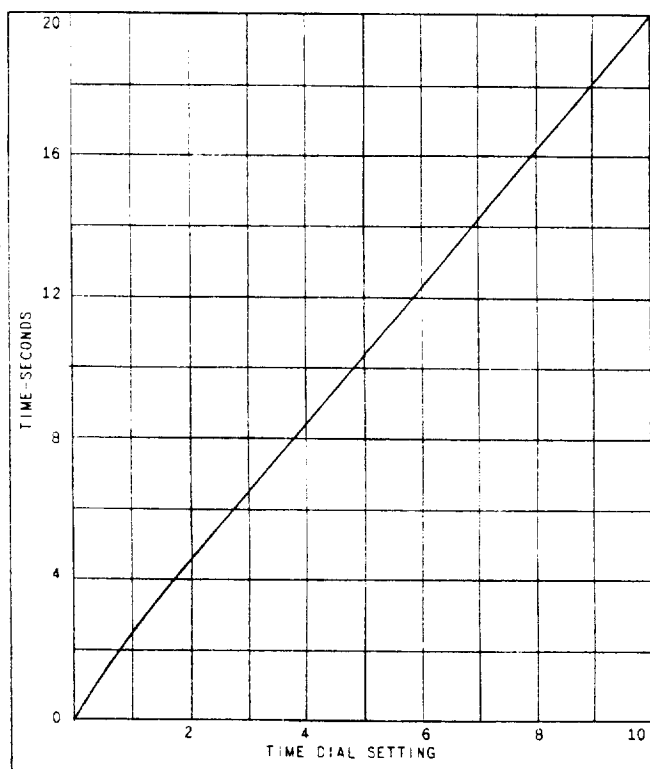

Fig. 6 (K-6400150-2) Operating Time of Type IJS Relay with 20° Closing Angle at 0°, 115 Volts 50/60 Cycles on Both Circuits
Fig. 6 gives the operating time in seconds for various time-dial settings with zero phase displacement and with rated voltage at 60 cycles on both circuits. Curves for 50 cycles are similar. The telephone-type undervoltage units are calibrated
1. Check that the relay picks up with at least 115 volts, 60 cycle single-phase source connected to both operating coils with approximately the time delay shown in Fig. 6.
When using either connections shown in Fig. 10 or Fig. 11, check the operating time at 0 displacement with 115 volts on each coil using the time dial setting of the permanent location. (See Fig. 6 for nominal time delay values).
2. Check the closing time with the potentiometer set to provide 115 volts on both circuits. The time should agree with values given in Fig. 6 plus or minus 10 percent.